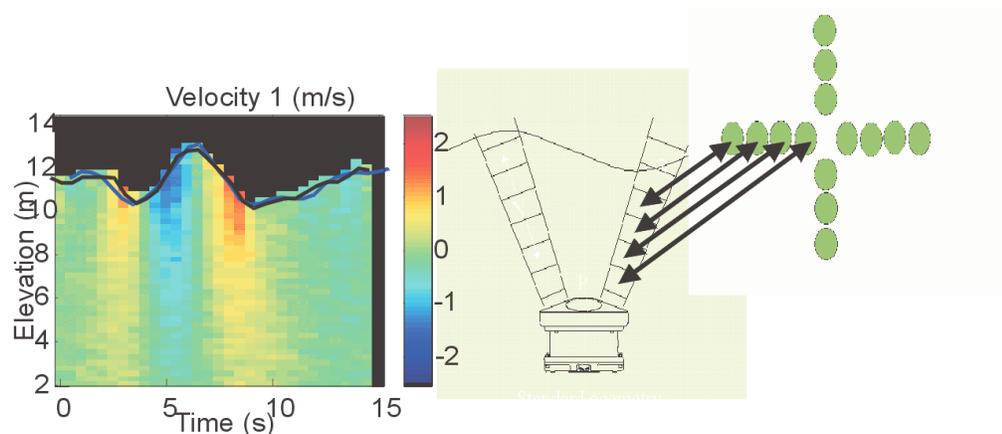

Figure 18. Height Spectrum – Velocity Array
- The orbital velocity can be measured up close to the surface then translated to a surface displacement spectrum. This method provides a much better frequency response because the measurements can be made farther up in the water column where the exponential attenuation of wave energy with depth, has not reduced the signal much (see Figure 18).